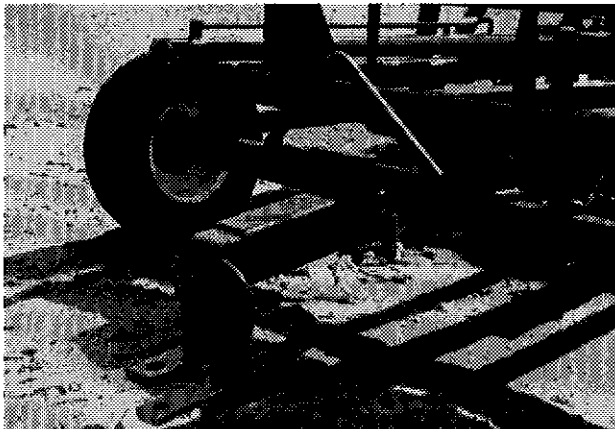

Figure 36
- 1) A triangular shape hoop has been installed on the fixed section of the tongue (Fig. 36). This provides a quick and efficient method to influence or change the direction of travel of the SilaTube without leaving the tractor. Simply insert the bale spear in the lower part of the triangle on the side you wish to shift the SilaTube and lift slightly.